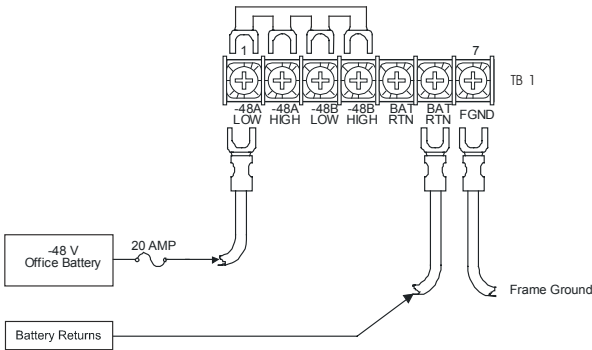

Figure 3. Single Source Power Wiring
1. Wire the COT shelf according to Figure 3.
2. Ensure the bridging clip is installed as shown in Figure 3 (factory provided).